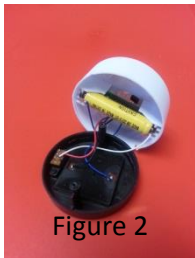

Figure 2
2) Unscrew the two screws holding the solar assembly together to reveal the wires and rechargeable battery, as shown in **Figure 2**.
1) Unscrew the two screws holding the solar assembly together as shown in **Figure 1**. This will allow the solar assembly to come apart as shown in **Figure 2**.